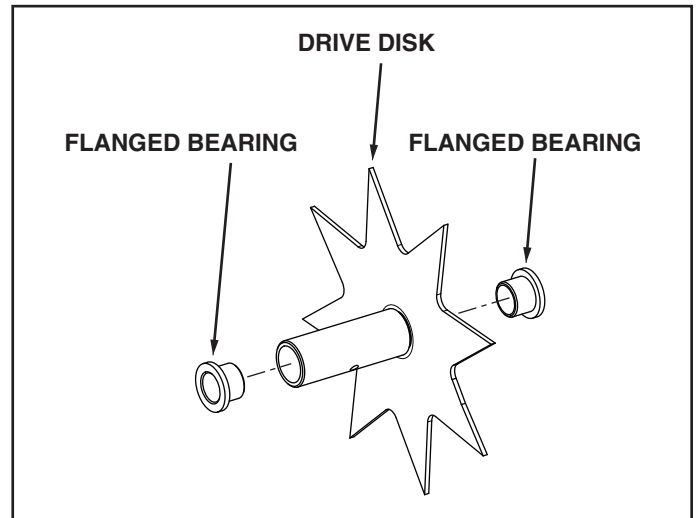

FIGURE 2
3. Press a flanged bearing into each end of both drive disks. See figure 2.